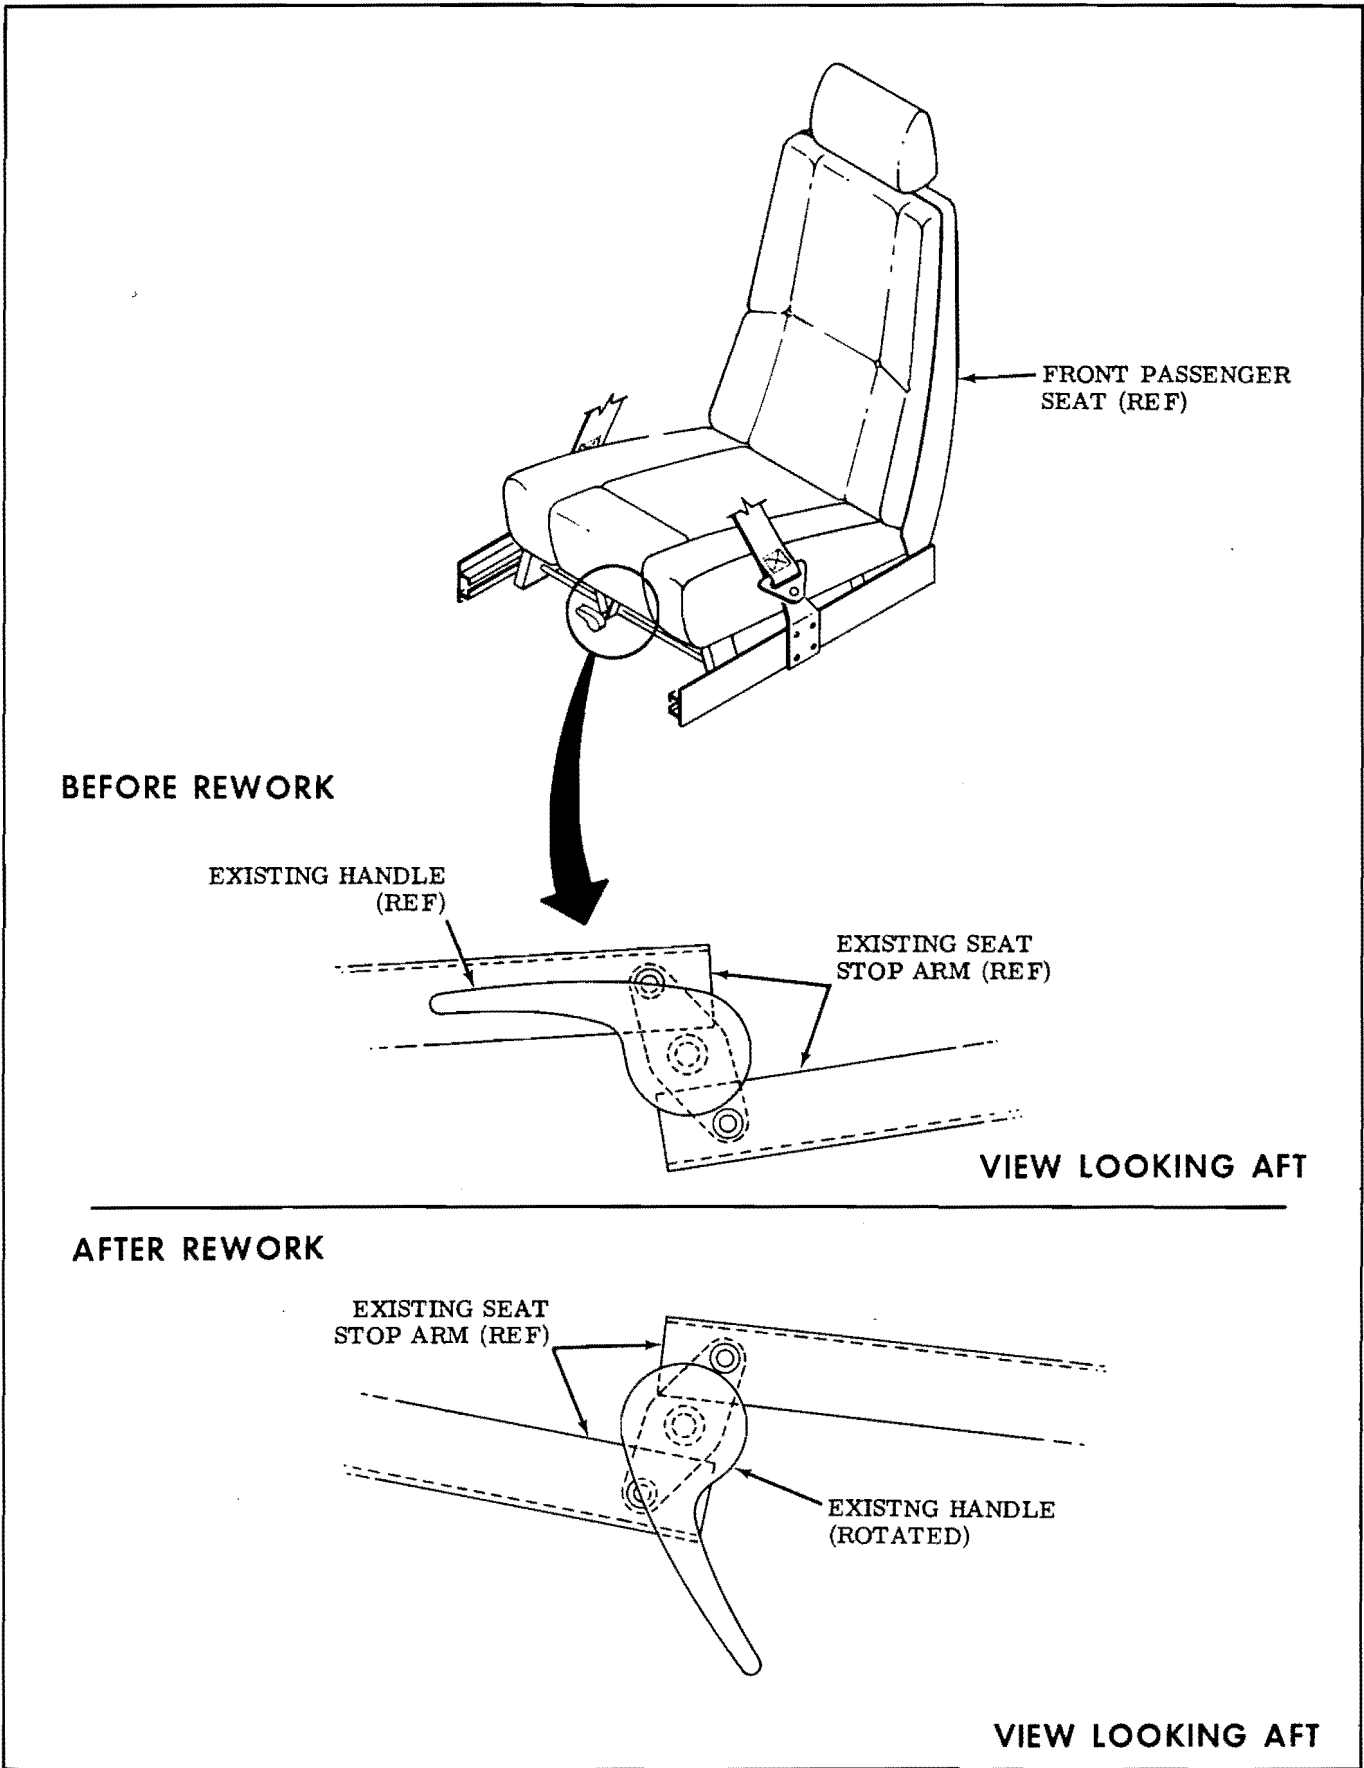

Figure 1.
1. Remove existing seat stop arms from front passenger seat (see Figure 1.).
2. Rotate existing seat stop arms and reinstall on front passenger seat using existing hardware (see Figure 1.
3. Remove existing roll pin from seat locking mechanism handle, rotate handle and reinstall existing roll pin (see Figure 1.).